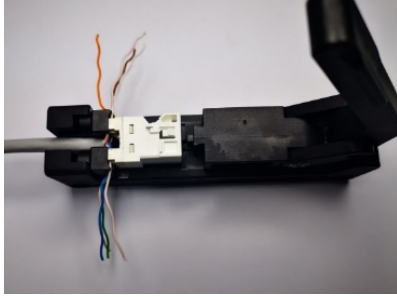

Figure 6
3.6 Insert the lacing fixture with the jack into the tool. See Figure 6.